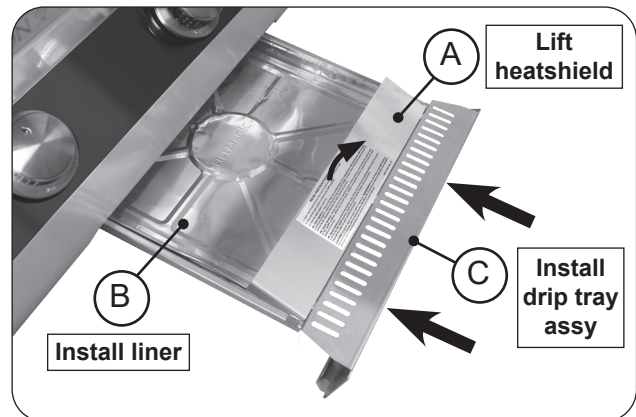

Fig. 33-3 Install drip tray
1. Lift the heatshield slightly, then place a liner into the drip tray (Fig. 33-3, A and B).
2. Then fully insert the drip tray assembly into the bottom front opening of the control panel (Fig. 33-3, C).